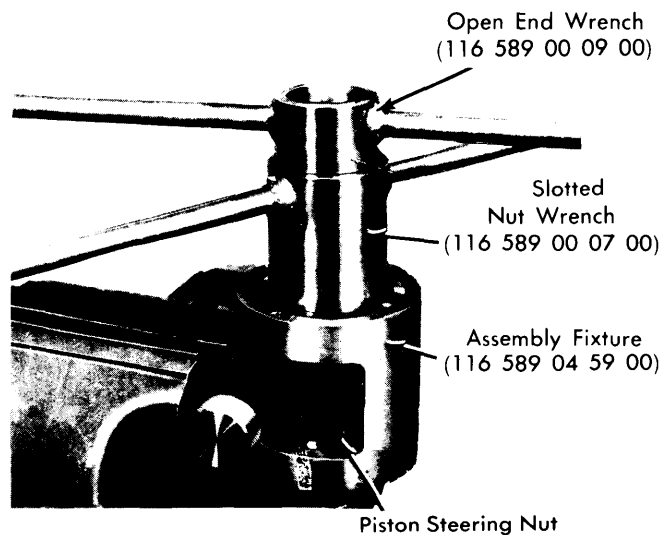

Fig. 8 Removing Worm Gear Nut from Piston/Steering Nut
11) Remove bearings from piston/steering nut. See Fig. 8.